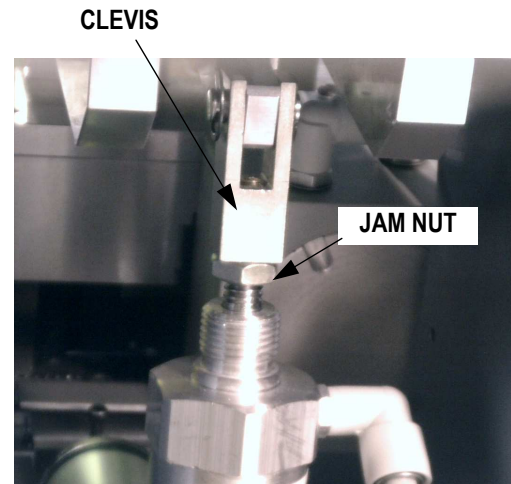

Figure 2-5
2. Turning the rod end clockwise lowers the punches and counterclockwise raises them. The rod end can be turned with the jam nut by turning the jam nut down snug against the end of the threads on the rod. Then turn off the air supply and turn the jam nut to adjust. See Figure 2-5.